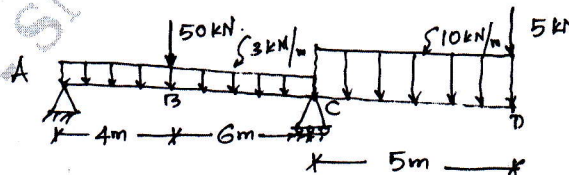

Fig. Q3 (b)
- b. Draw shear force diagram and bending moment diagram for the following figure Fig. Q3(b). (14 Marks)